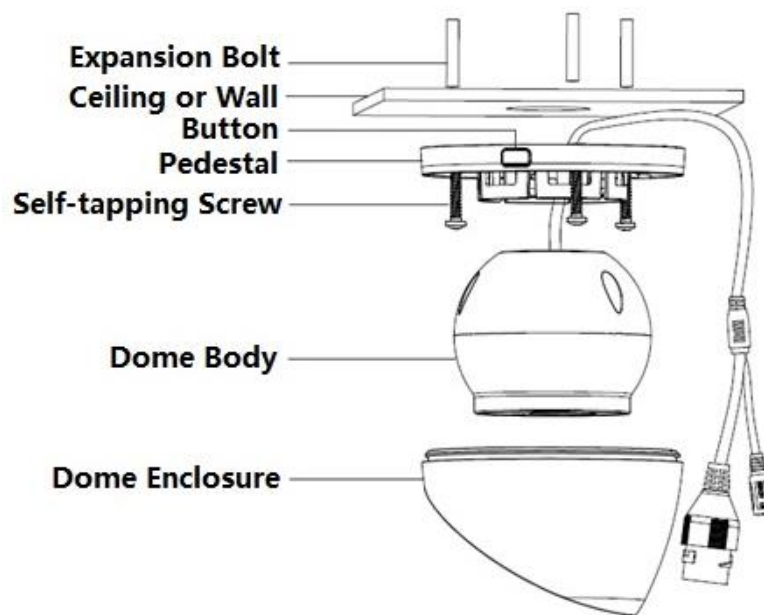

Figure 2-1 (a)
- The installation figures are for reference only, please refer to figure 2-1(a) or 2-2(b) according to the actual product.
- For the device shown in Figure2-1 (a), the steps of disassembling the device are as follows: